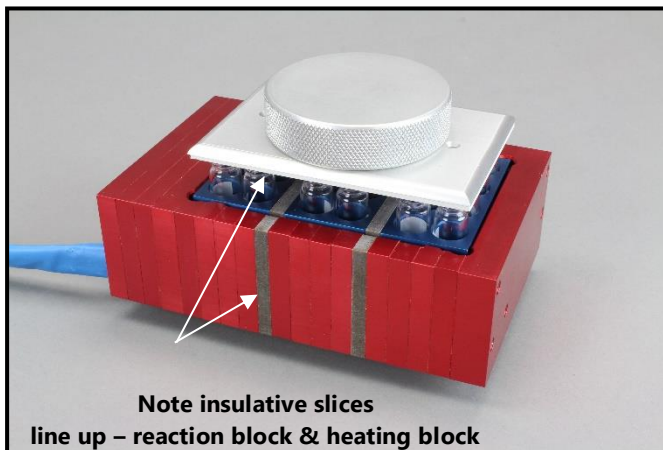

**Figure 8. Side view of heating block showing 3 temperature zones**
3. Note that location of each temperature zone is indicated on the side of the red anodized heating block as shown in **Figure 8**.